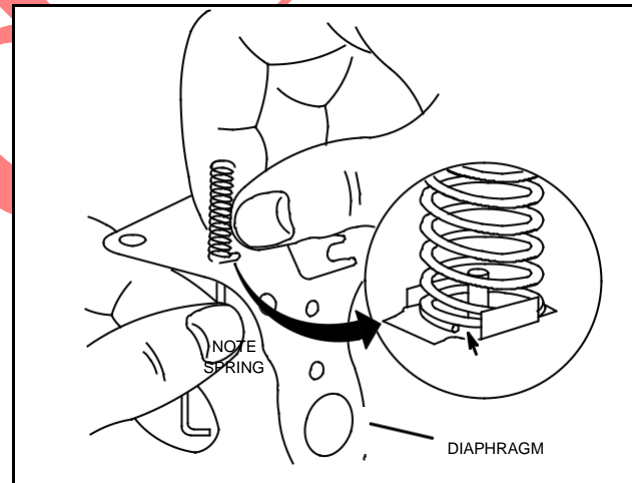

Fig. 160 - ASSEMBLE SPRING TO DIAPHRAGM
1. If a new diaphragm is being installed, assemble choke spring to diaphragm, as shown in Fig. 160. See Table No. 10 for correct spring usage. Be careful not to bend or distort spring.